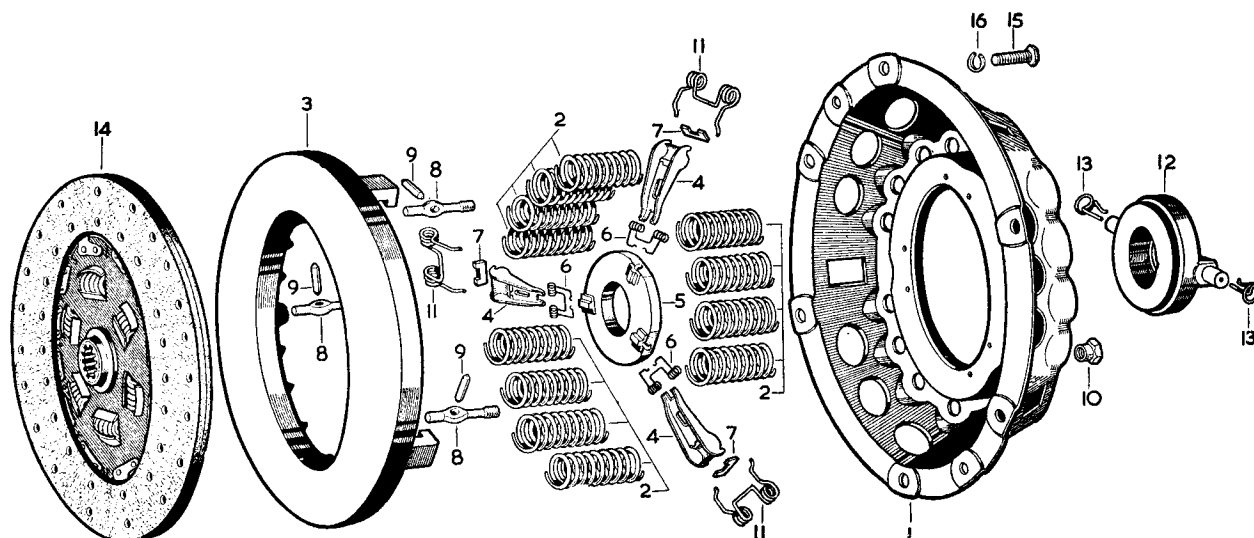

Fig. 8. Exploded view of clutch assembly.
The driven plate assembly (14, Fig. 8) is of the flexible centre type, in which a splined hub is indirectly attached to a disc and transmits the power and overrun through a number of coil springs held in position by shrouds.
Fit a pin (9, Fig. 8) into an eyebolt (8) and locate the parts within a release lever (4). Hold the threaded end of the eyebolt and the inner end of the lever as close together as possible and, with the other hand, engage the strut (7) within the slots in a lug on the pressure plate, with the other end of the strut push outwards towards the periphery of the plate. Offer up the lever assembly, first engaging the eyebolt shank within the hole in the plate, then locate the strut within the groove in the lever. Fit the remaining levers in the same way, not forgetting to lubricate all contact faces.